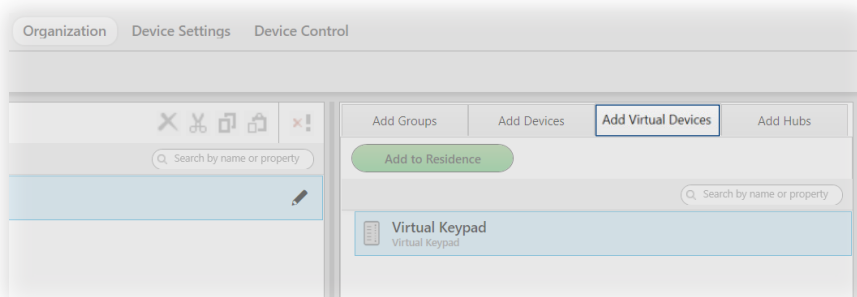

fig. 29
- 1 **Go to the Add Virtual Devices tab in the top-right pane of the Organization tab.** (See fig. 29.)